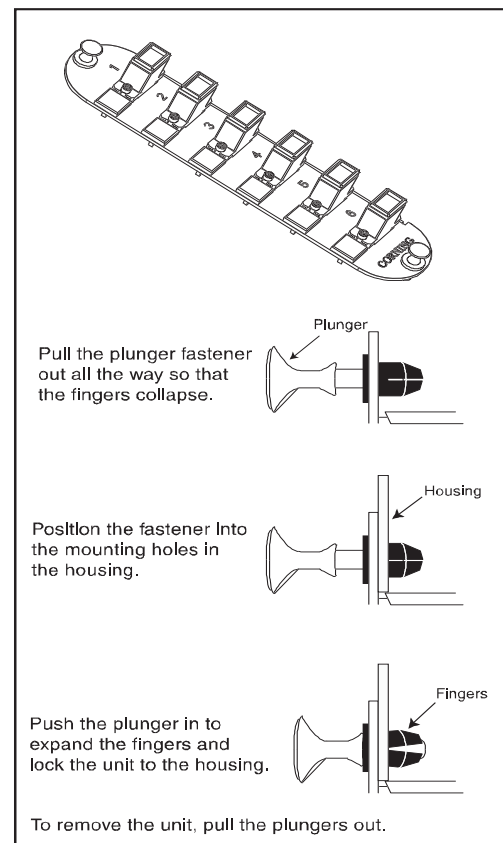

Figure 14
9.2 Secure the panels/modules to the housing as shown in Figure 14.